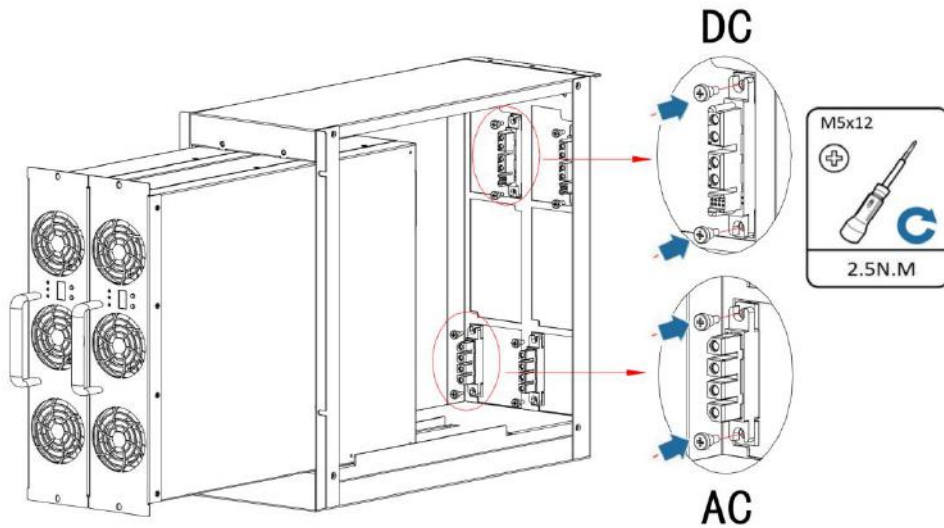
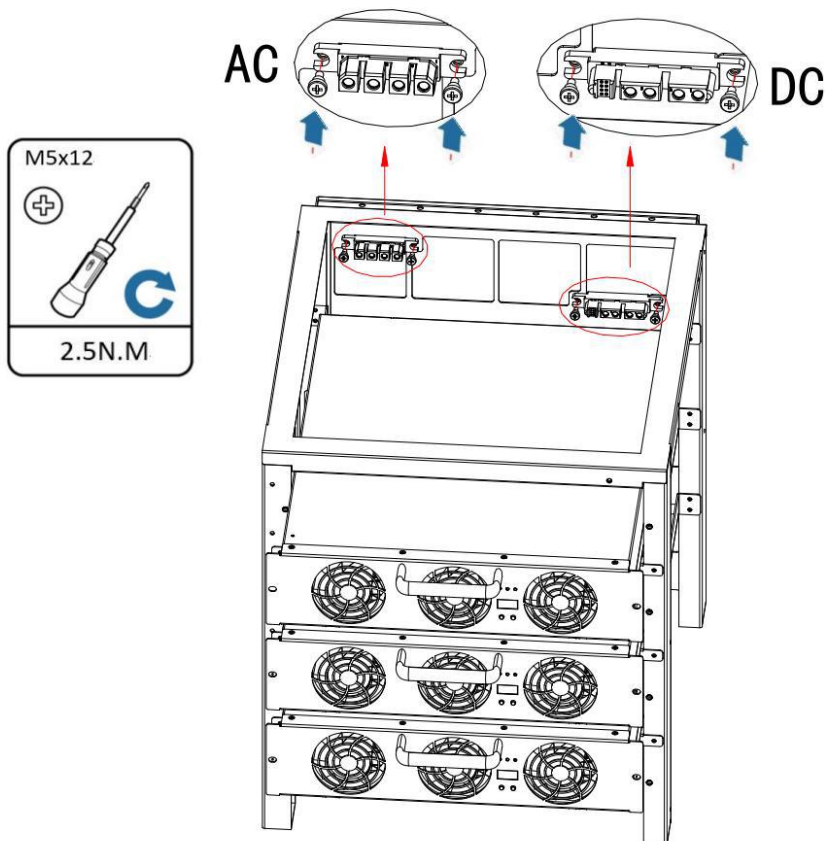

Figure 3-1 System terminals Installation diagram (modules placed sideways)
Figure 3-2 System terminals Installation diagram (modules placed flat)
- The system terminals (input cable terminals, output cable terminals) are installed on the mounting plate of the charger body, as shown in Figure 3-1 and Figure 3-2.